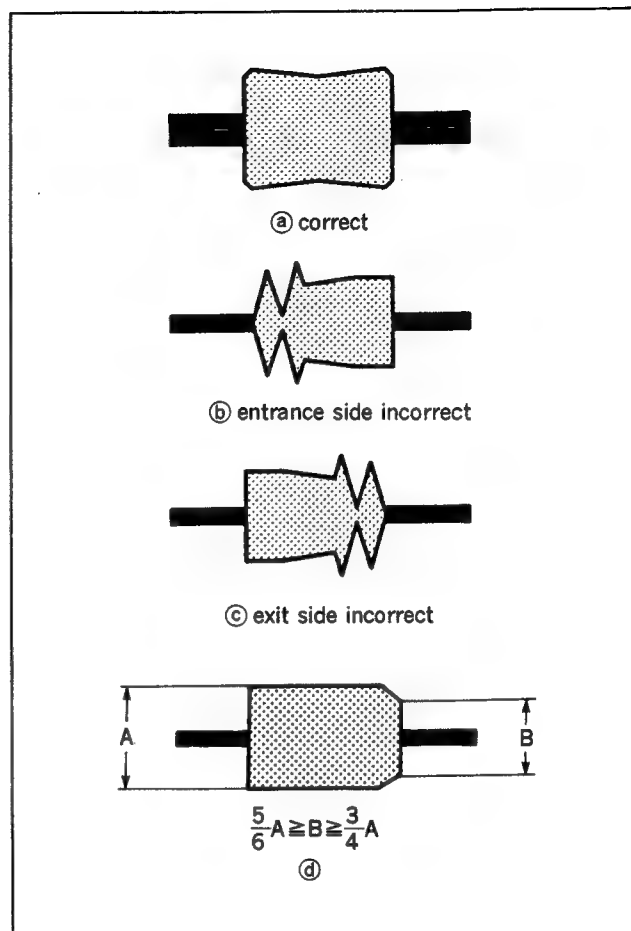

Fig. 6-4 RF wave shape check
C (1) Playback the tracking alignment tape (WR5-1NP). Check to see that RF wave shape is flat in both entrance side and exit side of drum (as shown in Fig.6-4 (a)).
(3) Check to see that RF wave at exit side meets the specifications as shown in Fig. 6-4 (d).
- If the RF wave shape at entrance side is not flat as shown in Fig. 6-4 (b), go to section 6-2. Tape Entrance Side Adjustment.
- If the RF wave shape at exit side does not meet requirements of above steps (1) and (2) as shown in Fig. 6-4 (c), go to section 6-3. Tape Exit Side Adjustment.